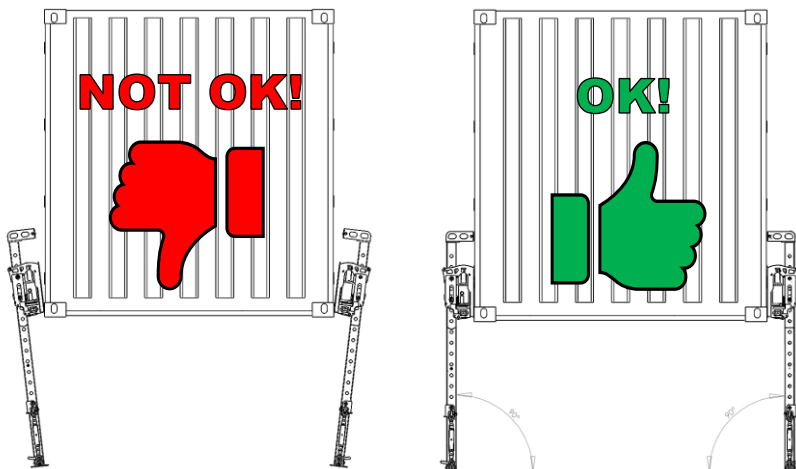
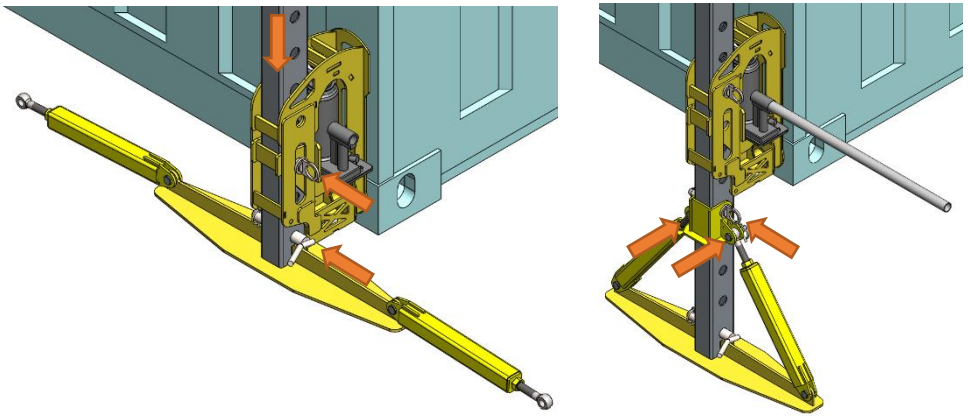

Figure 2 The correct installation of a CFU-leg
Figure 4 Mounting of climber unit, support leg assembly, lower main tube, support leg bracket and side supports.
3. Insert lower main tube through the climber unit to the support leg assembly and fasten with a main locking pin (**Figure 4**). **Make sure that the main tube is completely perpendicular to the ground to avoid the climber getting stuck during the lifting or lowering!** (**Figure 2**)
4. Insert support leg bracket to the lower main tube and fasten with a locking pin through the fifth hole from bottom, see **Figure 4**. If container is on the ground perform steps 6 to 11 to lift the container high enough to install support leg bracket
5. Attach support leg assembly eye bolts to the support leg bracket with locking pins (**Figure 4**). If needed adjust eye bolt length by rotating them
6. Insert upper main tube to the lower main tube (**Figure 4**)